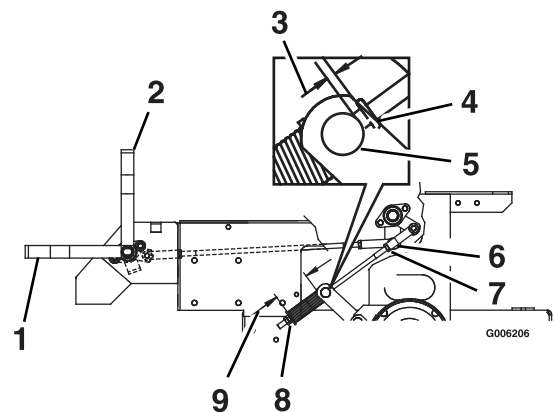

Figure 18
2. Measure the length of the spring. Measurement should be 2 3/4 inches (7.0 cm) between washers. (Figure 18).
4. If adjustment is necessary, loosen the nut directly below the yoke. Turn the bottom nut (below washer) until the correct measurement is obtained (see Figure 18) turn nut clockwise to lengthen the gap (screws rod into yoke) and turn counterclockwise to shorten the gap (screws rod out of yoke). Tighten nut against yoke and check opposite side of unit, repeat if necessary. Lengthen (or shorten) the brake rod until the correct gap can be achieved by following steps 2 and 3.